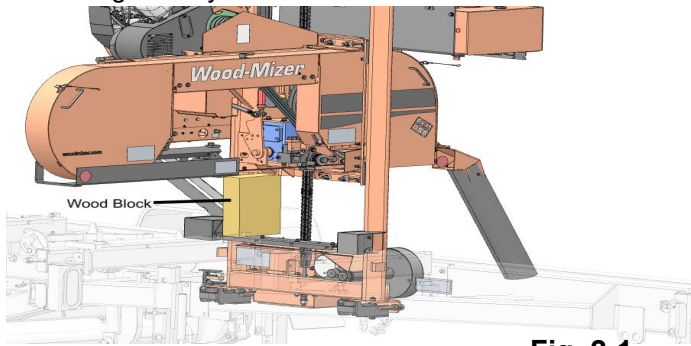

Fig. 2-1
**WARNING!** When servicing the saw head or areas near the saw head, always secure the saw head with a chain with at least 1900lbs working load capacity. Alternatively, the saw head can be secured with a sturdy wood block placed between the saw head and sawmill frame. See Fig. 2-1.